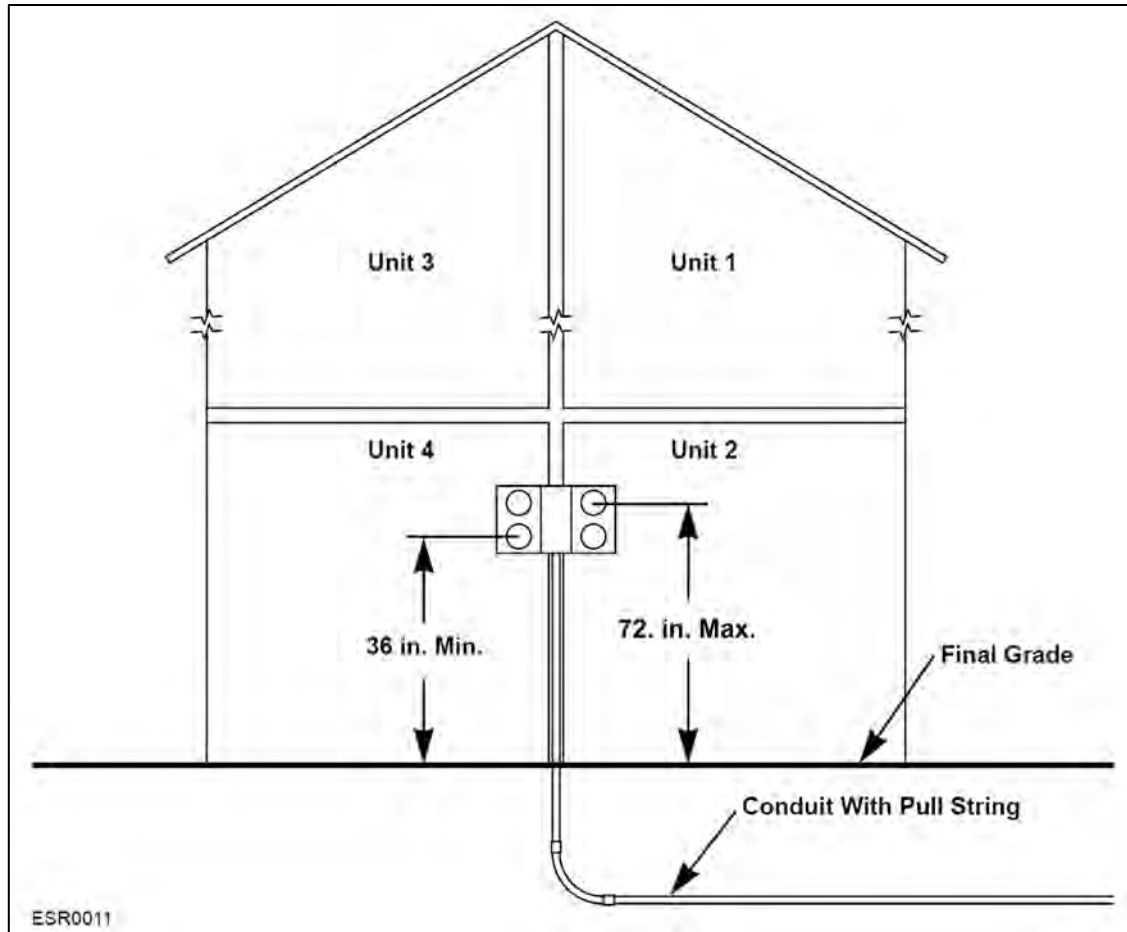

Figure 52: Underground Service for a Multiple-Family Dwelling
Figure 52 shows a typical grouping.
- The center of the lowest meter in a bank of meters must be at least 36 inches from final grade. The highest meter in a bank of meters must be no more than 72 inches from the final grade. **Figure 52** above shows these distances.